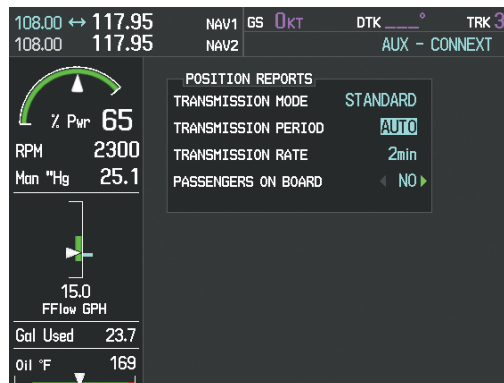

Figure 8-123 Set Transmission Period
- With the AUX-CONNEXT Page displayed, push the **FMS** Knob to display the cursor in the TRANSMISSION PERIOD field as in Figure 8-123.
- 4) Press the **SEND RPT** Softkey, as seen in Figure 8-123.